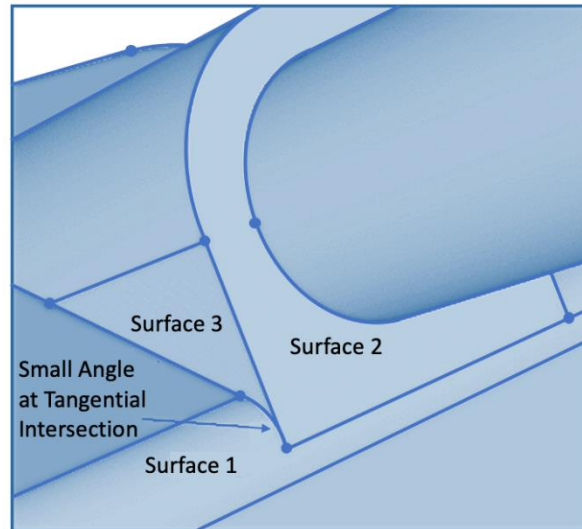

Figure 6. Tangential Intersection Example
- **Tangential Intersections** - A tangential intersection is formed when two parallel surfaces share an edge and have a 180 degree angle between them. The tangential intersection test is looking for the condition where two surfaces that meet tangentially share a common edge, and each of the surfaces has another edge which resides on a third face and forms a small angle. In the example shown in Figure 6., Surface 1 and Surface 2 are tangential to each other and share a common edge. Both Surface 1 and 2 have another edge which resides on Surface 3 and forms a small angle at the vertex common to all three surfaces.